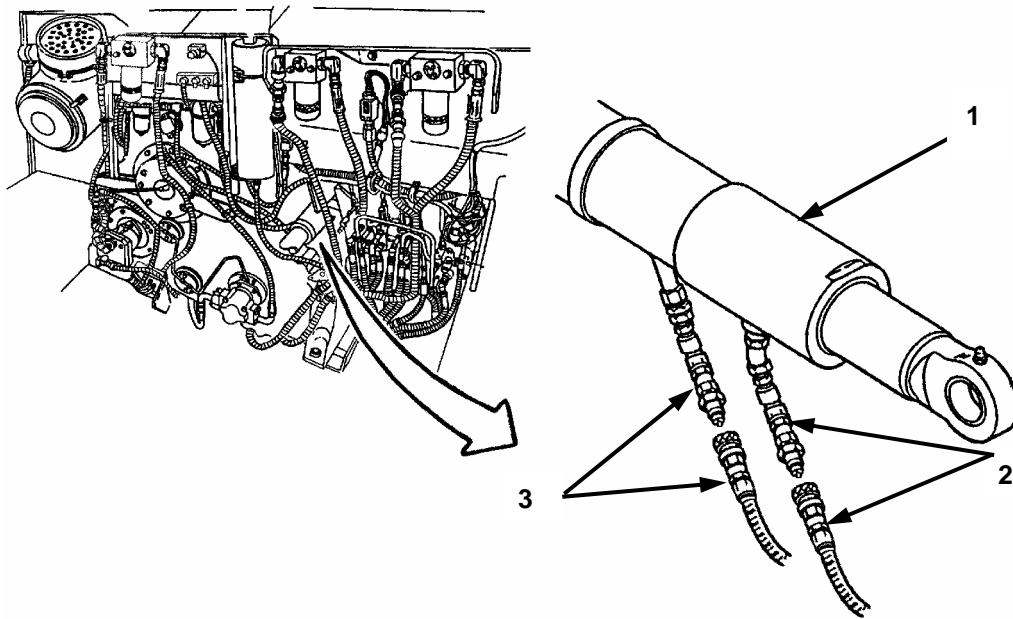

Figure 2-7. Ejector Cylinder
Step (12) below applies to Figure 2-7.
- (12) While performing FOLLOW-ON TASKS per TM 5-2350-262-34, Power Package Replacement–Installation, install two quick-disconnects (2 and 3) at ejector cylinder (1) with male couplings to ejector cylinder.